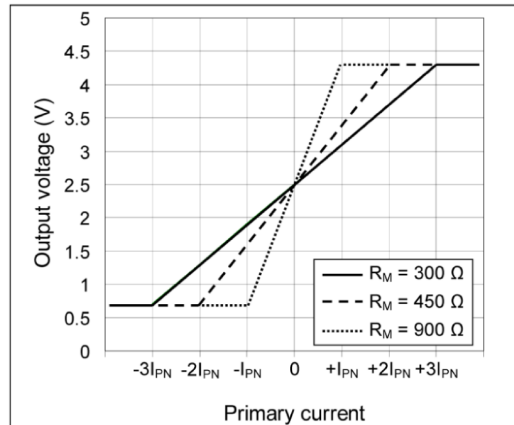

Fig.1: Characteristic of primary current to output voltage according to different R_M . $V_{refout} = 2.5\text{ V}$.
4) Output voltage is scaled by changing R_M but not beyond these limits. See Fig.1.
- 3) $R_M > 300\ \Omega$: reduces I_{PR} but increases G_V . See Fig.1.